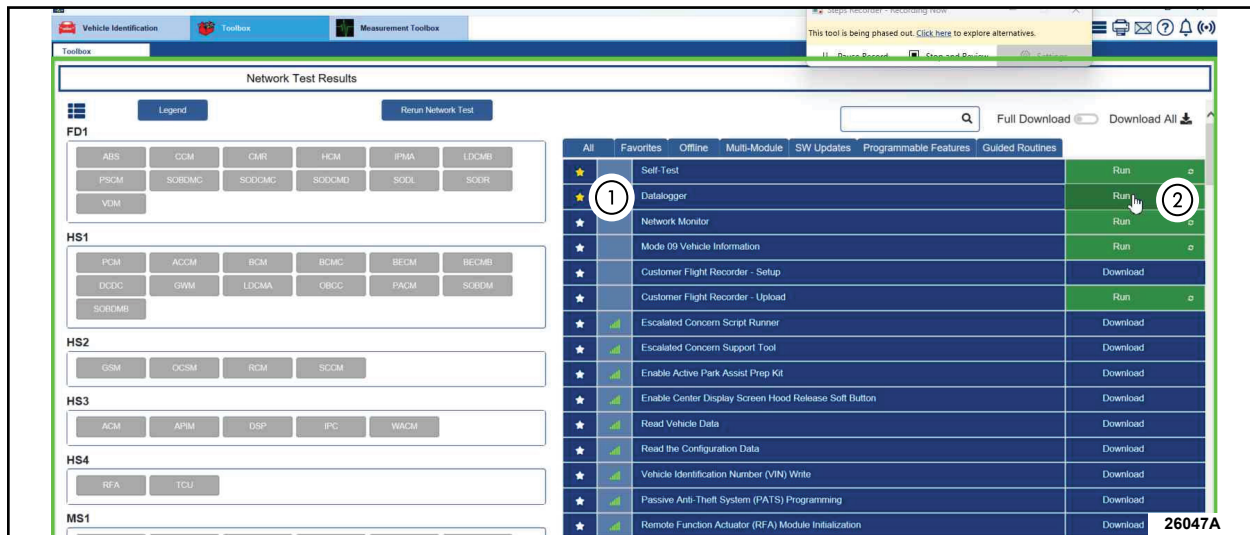

FIGURE 1
4. From the list on the RH side of the screen, select **Datalogger** (1). See Figure 1.
5. Click **RUN** (2). See Figure 1.